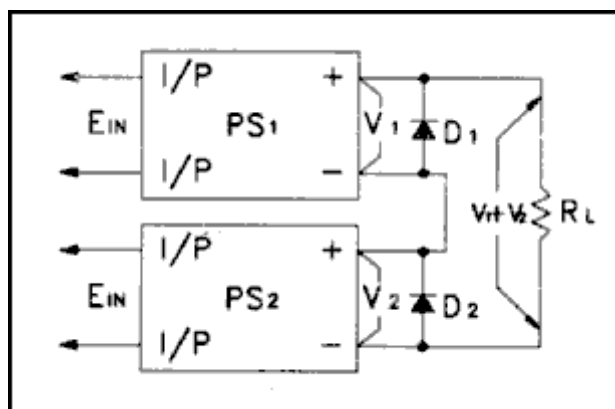

Fig. 16
b. Fig. 16 illustrates a sample setup for series connected DC-DC converters. The diode, connected directly across the output terminals, is also recommended in any application where a reverse voltage may be applied to the unit's output. As a general guide, the diodes should be Schottky Barrier with a reverse voltage more than twice the output voltage and rated output current more than twice the rated output current or short-circuit current whichever is greater.